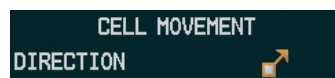

Figure 6-22 Cell Movement Legend
- 1) Select the **MAP** Softkey (for the PFD Inset Map, press the **INSET** Softkey). This step is not necessary on the Weather Data Link (XM) Page.
- 2) Select the **NEXRAD** Softkey (**CEL MOV** Softkey on the XM Weather Data Link (XM) Page). For Cell Movement to be displayed on maps other than the Weather Data Link (XM) Page, Cell Movement must be turned on in the Navigation Map Setup Menu (see "Setting Up XM Satellite Weather").
To display the Cell Movement legend on the Weather Data Link (XM) Page, (Figure 6-22), select the **LEGEND** Softkey when Cell Movement is selected for display.